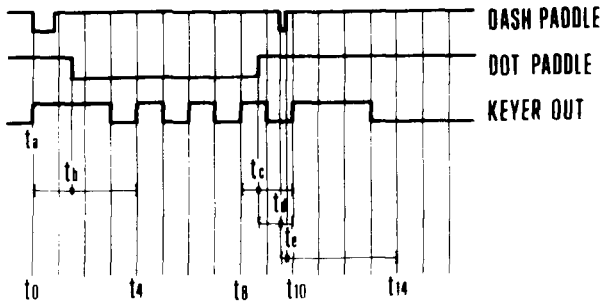

fig. 3. Permitted time intervals for closing and releasing paddles to generate the character = (BT).
The second group of characters are those which have a series of dots or dashes. **Fig. 3** shows the keying required for the character = (BT). The paddle is first closed to generate a dash at the instant  $t_a = t_0$ , but yet, must be released and moved to the dot side before  $t_4$ . During the interval  $t_c$  to  $t_{10}$ , the paddle must be repositioned to form the last dash. For example, the paddle could be closed during  $t_c$  to  $t_{14}$  and released during  $t_d$  to  $t_{14}$ .